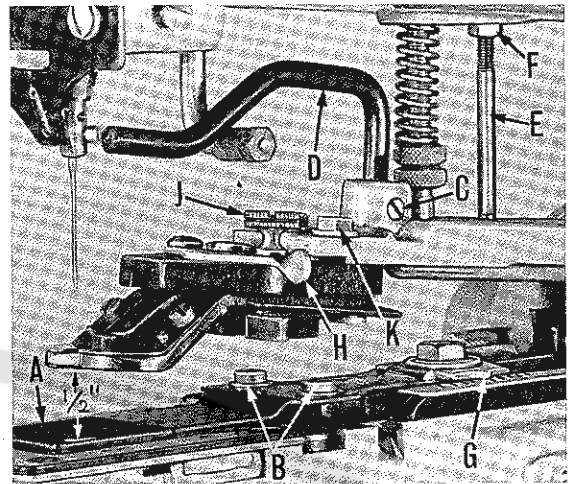
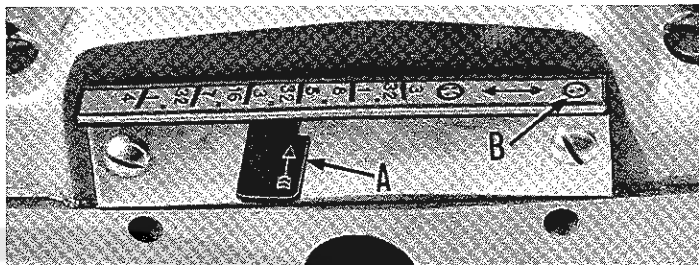

Fig. 7
Fig. 11
Make sure that the feed plate (A, Fig. 7) is set so that it does not interfere with the needle at any point of its travel.
With the machine in stop position, the normal distance between the bottom of the button clamp to the top of the feed plate should be  $\frac{1}{2}$  inch (Fig. 7). To make this adjustment, loosen set screw (C), and raise or lower rod (D).
Return the machine to stop position, and check the position of the button clamp stop pin (E, Fig. 7). Its purpose is to prevent overthrow of the button clamp so that the needle will not strike the button or any other part of the button clamp. Insufficient clearance between the stop pin and the button clamp holder will cause the machine to re-cycle. Too much clearance will cause the button to strike the needle.
The stop pin, corresponding to (E, Fig. 7), should be set only as low as necessary to drop the feed plate holder off the latch when the machine has reached stop position.
Accurately measure the distance between the holes of the button, and set the pivot indicator (G, Fig. 7) and spring indicator (A, Fig. 11) to the graduations corresponding to the distance between the holes in the button.
With the machine in stop position, insert the button in the jaws of the clamp, and adjust the stop lever (H, Fig. 7) by means of screw (J) so that the button is held loosely by the jaws.
Set pivot indicator (G, Fig. 7) to proper graduation on scale corresponding to distance between holes of button, and set spring indicator (A, Fig. 11) on circle with two dots at left end of scale (B). Continue with adjustment of button clamp the same as for four hole buttons.
When sewing two hole buttons from back to front on Styles 200-6, 200-7, set pivot indicator (G, Fig. 7) and spring indicator (A, Fig. 11) to the proper graduations on scales, corresponding to distance between holes of button. Push in the lever located under the spring indicator (A, Fig. 11). This lever is not illustrated.